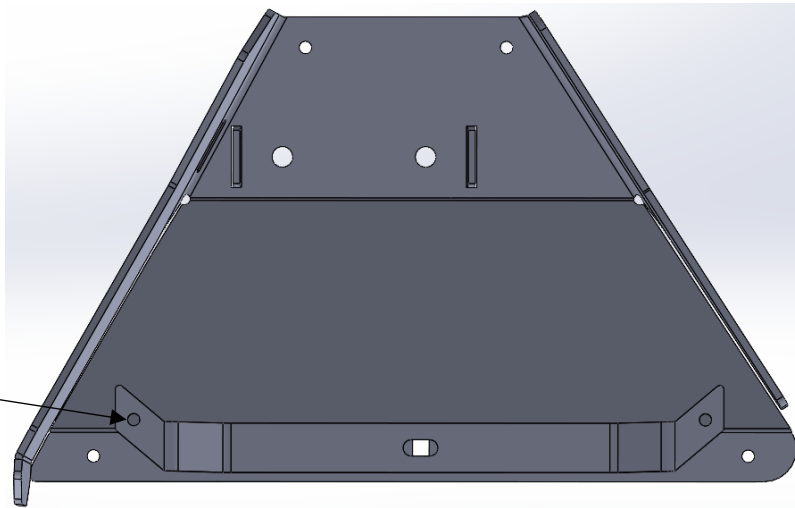

Figure 5: Correct Orientation of Top Mount
- NOTE: The Bronco A-arm Top Mounts (#3) need to be installed with tips of the winged flanges point towards the outside of the vehicle. Reference Figure 5.